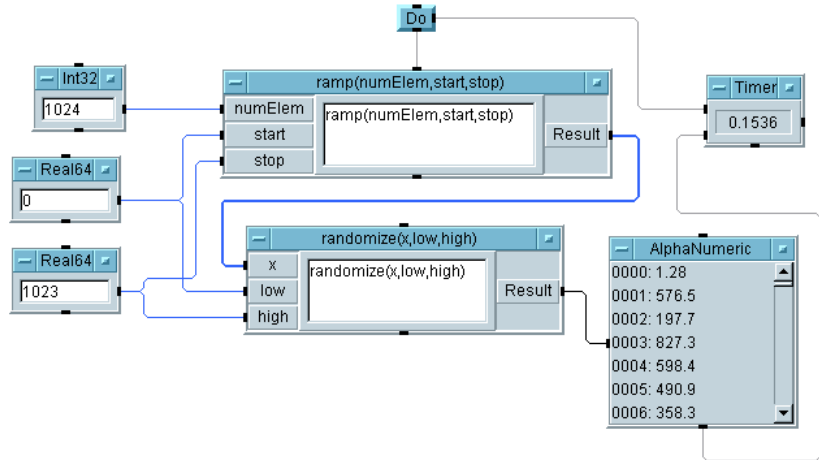
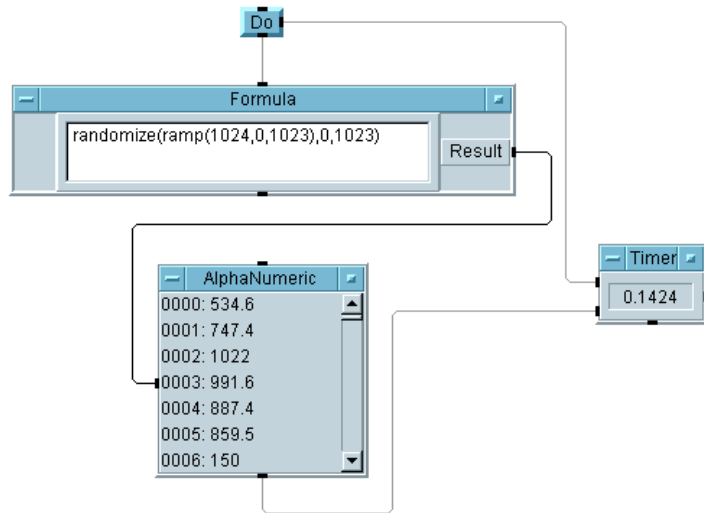

Figure 9-4. Function Calls without Optimization
Figure 9-5. Function Calls with Optimization
2. Nest function calls within other function parameter lists. For instance, in Figure 9-4, the function `randomize` uses the array generated by the function `ramp`. In Figure 9-5, the function call to `ramp` is nested in the call to `randomize`, resulting in slightly faster program execution.